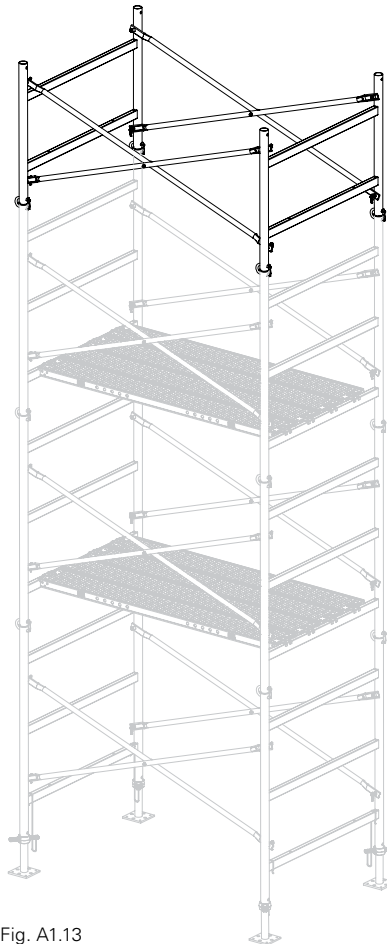

Fig. A1.13
1. Assemble the top level as described in Section A1.2 "Additional Levels". (Fig. A1.13)